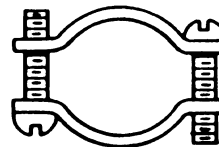
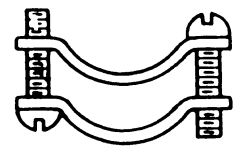

Figure 1
Figure 2
6. If cable selected has an outside diameter of .375" or larger use clamp assembly as shown in figure 1. If cable selected has an outside diameter less than .375", assemble parts as shown in figure 2.